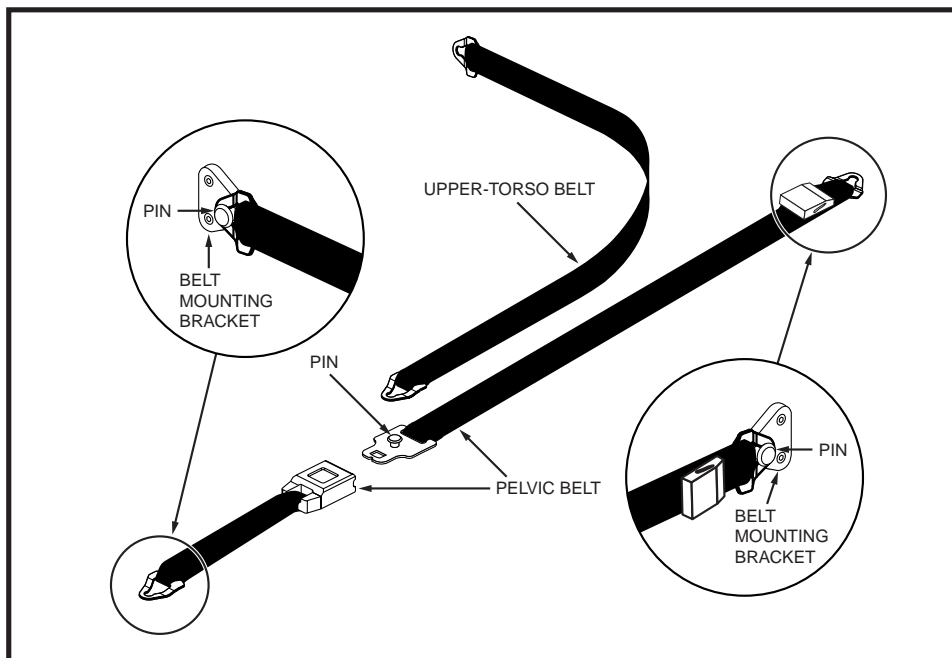

Figure 8. Wheelchair-anchored Belt Restraint
- If your wheelchair is equipped with a crash-tested pelvic belt that is anchored to the wheelchair frame, complete the restraint system by attaching the lower end of the WTORS upper-torso belt to the pelvic belt by referring to the WTORS manufacturer's instruction. Crash-tested wheelchair-anchored pelvic belts will be labeled to indicate compliance to the ANSI/RESNA WC/Vol 4, Section 19/ISO 7176-19 standards. See figure 8.